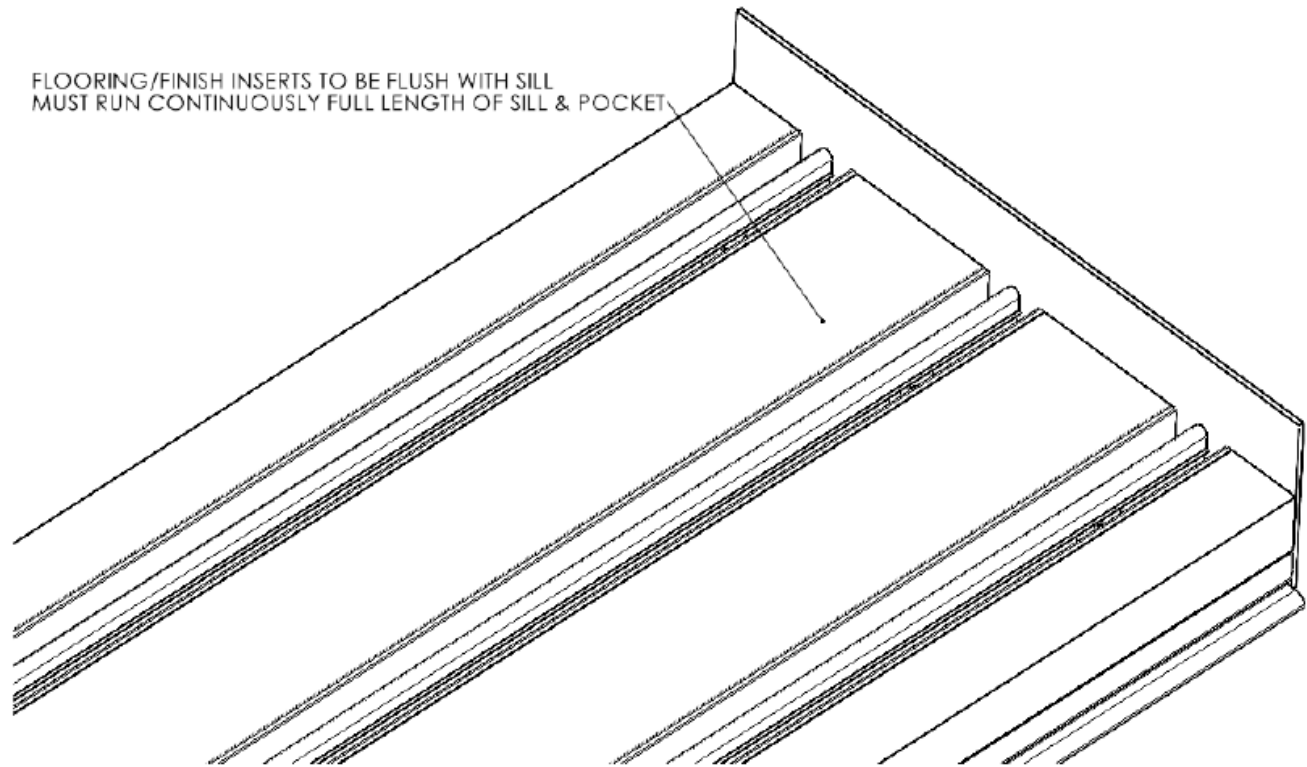

Figure 8
- No water management (sill with no weeps or drain fitting) (See **Figure 8**).
NOTE: Sill types with limited water rating, no water rating, or no water management should only be used in well protected areas where a roof overhang will prevent driving rain and the exterior finish grade is stepped down and/or sloped away from the sill to help prevent water penetration. See Figure 8. Proceed to Step 10.